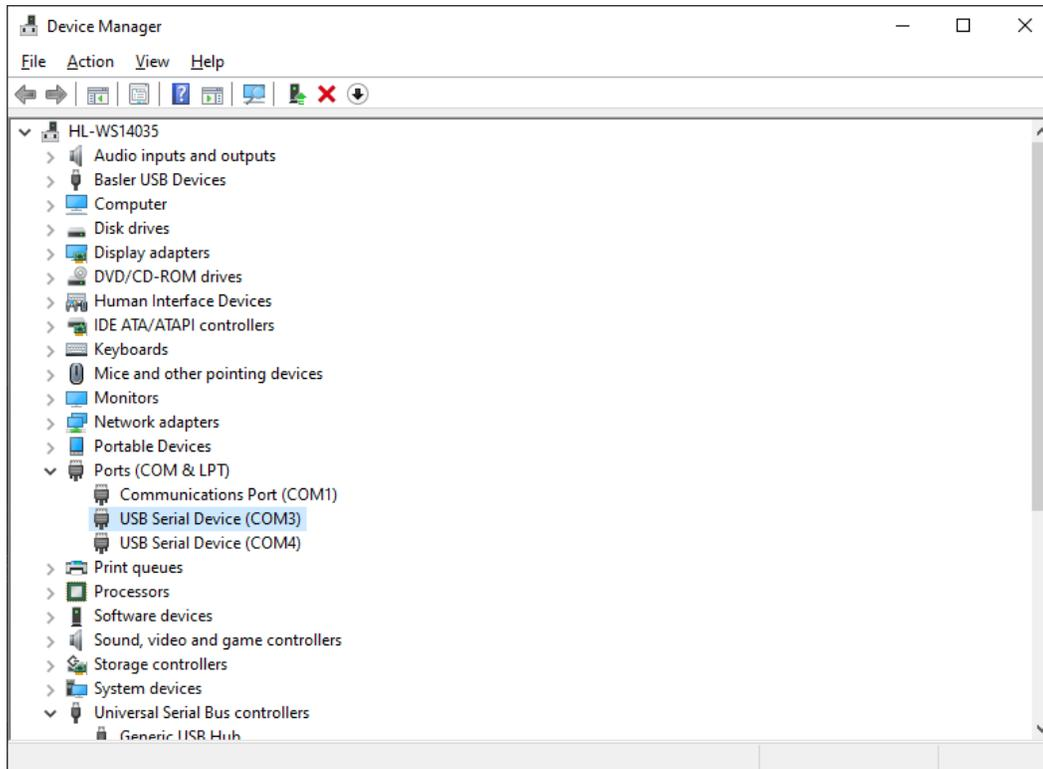

Figure 62-3. Device Manager
- Step 2. Open the Windows® Device Manger as shown in Figure 62-3. Right-click on USB Serial Device (COM#) for the BESTCOMSPiUS connection and select Update Driver.